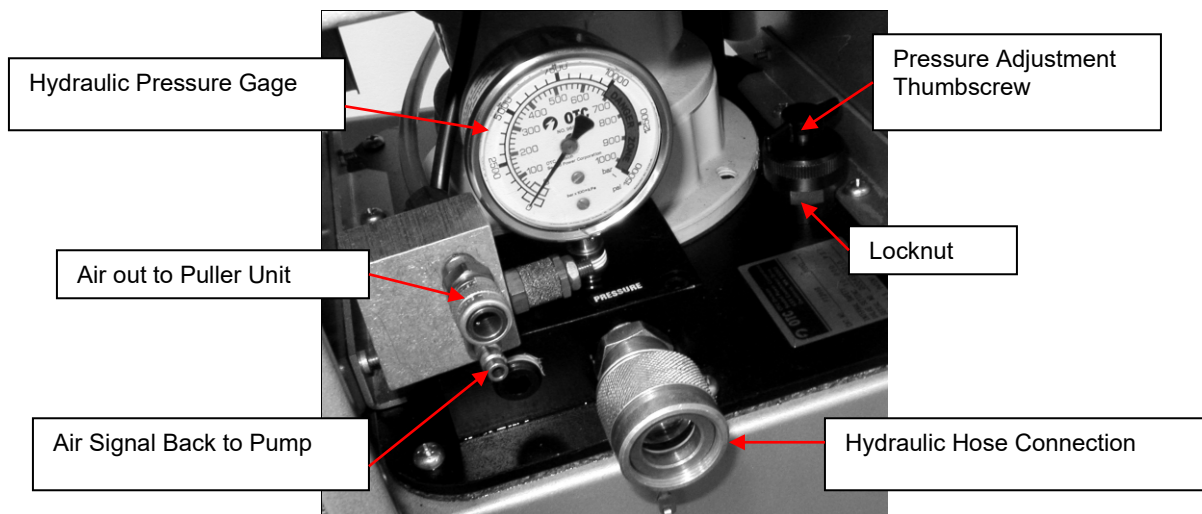

Figure 3.3-1
3. Once the pressure is set, retighten the locknut by hand to keep the thumbscrew from backing out during service. See Figure 3.3-1.